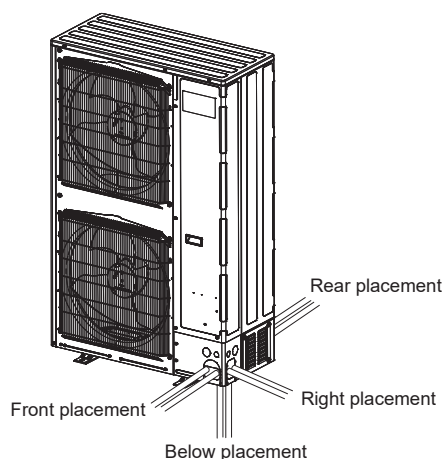

Fig. 4-10
- Attach the front cover and back cover to match each of the directions the piping passes through. (Fig. 4-10)
- When routing piping using a piping cover, cut out the knockout in the piping cover (B or D) following the groove, and wrap the pipes. (Fig. 4-10)